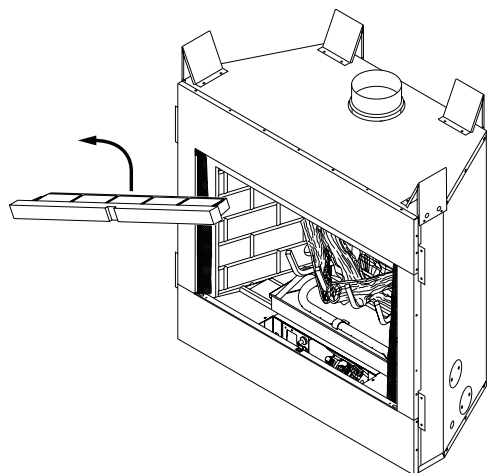

Figure 12 - Removing Front Refractory Access Panel (BRT2532TEN Model Shown)
1. Remove front refractory access panel by lifting up and angling out of firebox opening (see Figure 12).